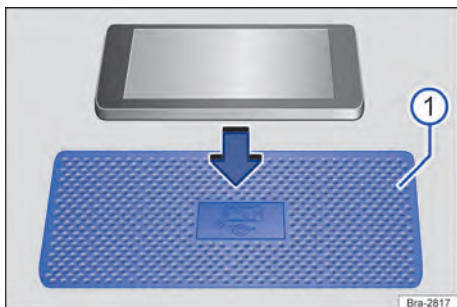

Fig. 128 Shelf with lining mat for the wireless accessory charger (illustration).
→ Fig. 128 ①. The symbol on the lining mat may look different in some vehicles.